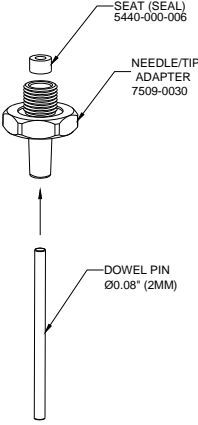

Figure 5.0
7.4 Seat Replacement (See Fig. 5.0 and 6.0)